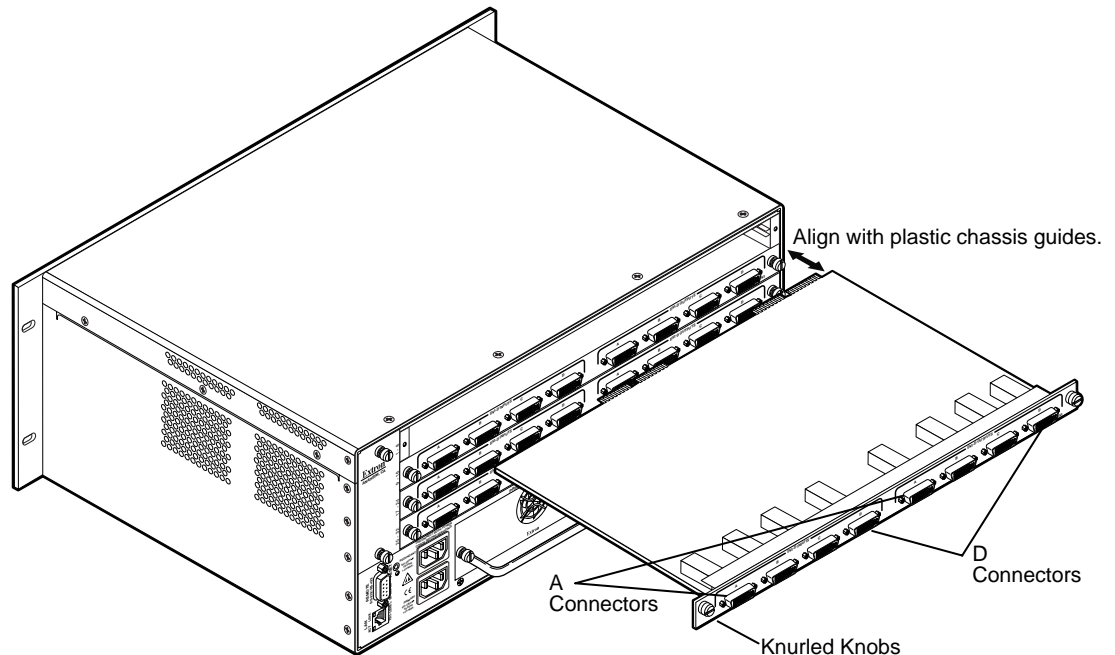

Figure 68. I/O Board Replacement
4. Slide the board or panel out of the chassis (see figure 68).
2. **For a board**, align the board with the left and right plastic chassis guides (see figure 68, above).